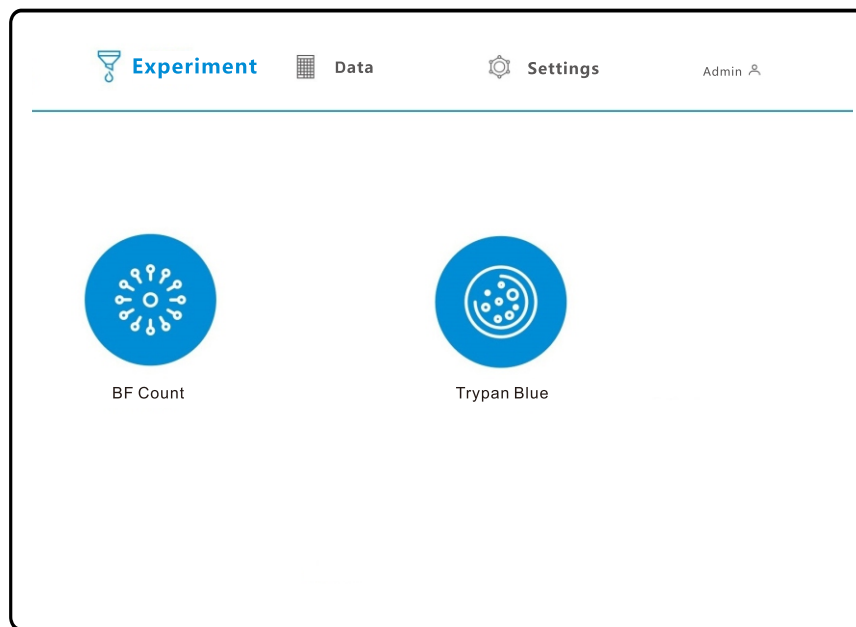

Figure 5 Experimental Type Interface
- 1 Figure 5: On the "Experiment" screen of the display, click the icon of the type of experiment tested, such as "Trypan blue Viability".